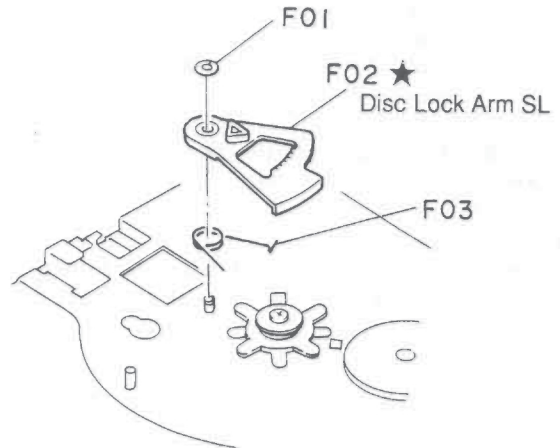

Fig. 2.13.2 Bottom View
- (4) Remove a cut washer F01 and detach F02 (Disc Lock Arm SL) and F03 (Disc Lock Spring SL). Refer to Fig. 2.13.2.